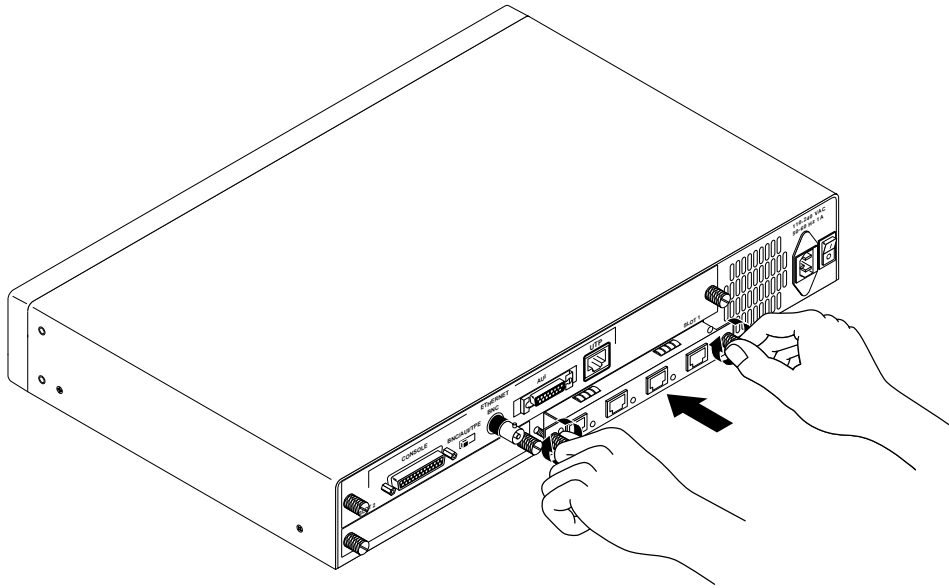

Figure C-5 Fastening I/O Card Captive Screws
- c Secure the I/O card in the slot by tightening the captive screws shown in Figure C-5.